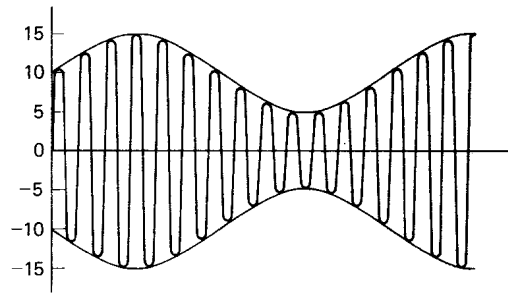

Fig. 3-22
3.41 Calculate the modulation factor and percent modulation of the AM wave shown as Fig. 3-22.